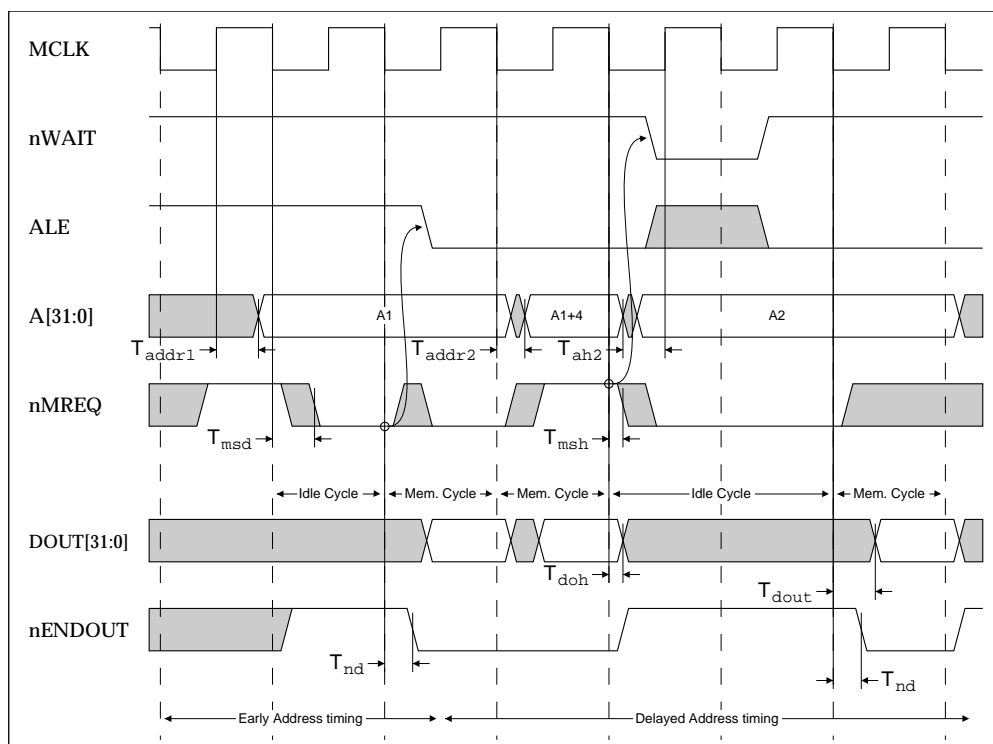

Figure 11-10: Use of nWAIT to increase memory decode time
This is the closest case of back to back cycles on the bus, and the memory controller should be designed to handle this case. In high speed systems one solution is to use **nWAIT** to increase the decode and access time available for the second access. See **Figure 11-10: Use of nWAIT to increase memory decode time** on page 11-16. The case shown is that of a write followed by a read. It could also have been a pair of back to back writes.
► **Figure 11-10: Use of nWAIT to increase memory decode time** shows a pair of single cycle buffered writes, with **nWAIT** being used to add an extra cycle after the first access.
Note that in the case of a pair of buffered writes, there may only be a single idle cycle between the two accesses. Refer to Figure 11-10: Use of nWAIT to increase memory decode time on page 11-16.